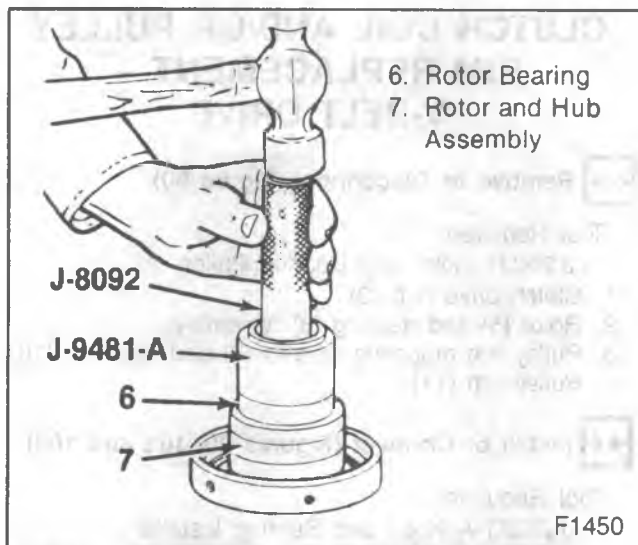

Figure 99—Installing the Bearing
1. Bearing (6) to the rotor hub with J 8092 and J 9481-A (figure 99).
Install or Connect (Figures 99 and 102)
1. Bearing to the rotor and hub assembly with J 8029 and J 9481-A (figure 99).
- Using a center punch with a 45 degree angle point, stake 1.1-1.4 mm (0.45-0.55 inch) deep in the places 120 degrees apart (figure 99).